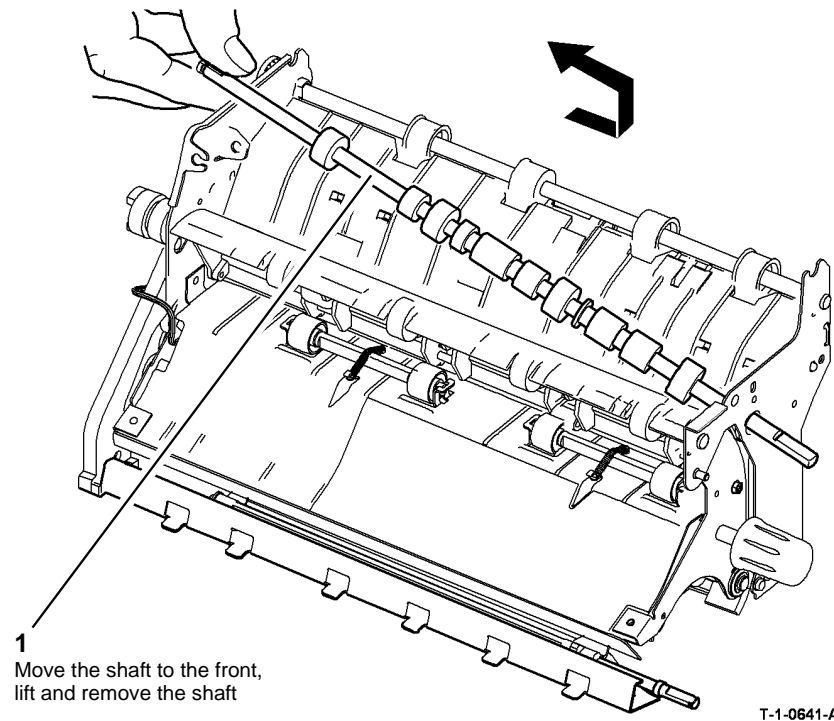

Figure 5 Tri-roll shaft removal
6. Remove the tri-roll shaft, Figure 5.
- a. Tri-roll shaft, Figure 5